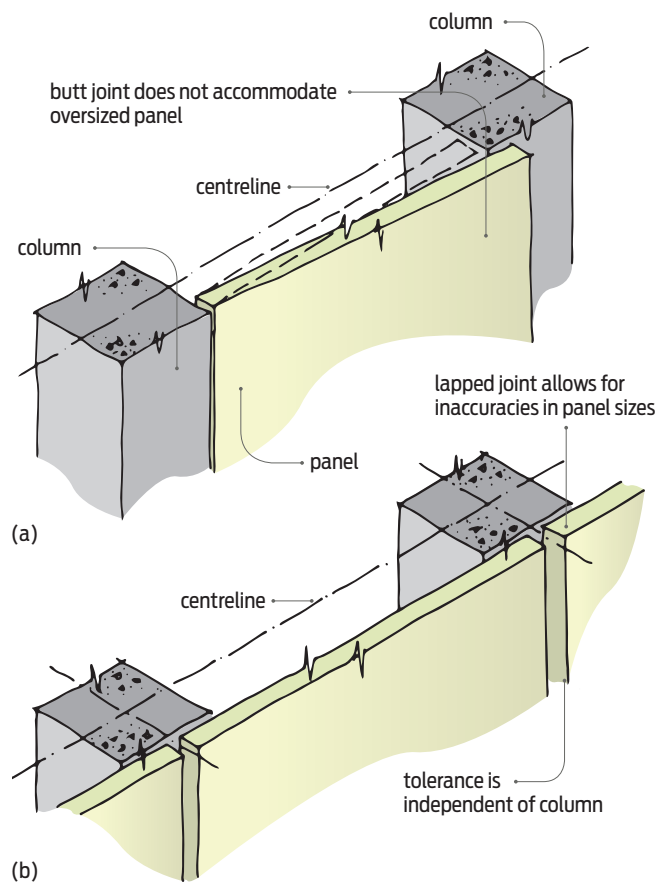

Figure 1: Overlapping joints allow for greater tolerance provided the vertical components align.
- using detailing that does not have a specific fit requirement (Figure 1)